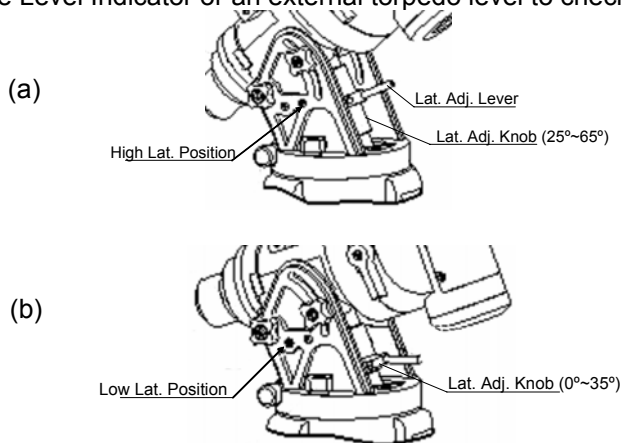

Figure 2
2. **Attach the iEQ30 Mount:** If the latitude is between 25° to 65° , set the Position Safety Pin at High Latitude Position, as shown in Figure 2 (a). For latitude between 0° to 35° , set the Position Safety Pin at Low Latitude Position, as shown in Figure 2 (b). Install the matching Latitude Adjustment Knob as well. The factory set default position is High Latitude Position ($25^\circ \sim 65^\circ$).
3. **Set the Location Latitude:** Unlock R.A. Clutch and adjust the mount upright. Tighten the R.A. Clutch. Unscrew four Latitude Locking Screws. Turn the Latitude Adjustment Knob to set your current latitude (Figure 2), which is displayed in Latitude Mark Window on the side of the mount. Using the Lever for a fine adjustment if needed.